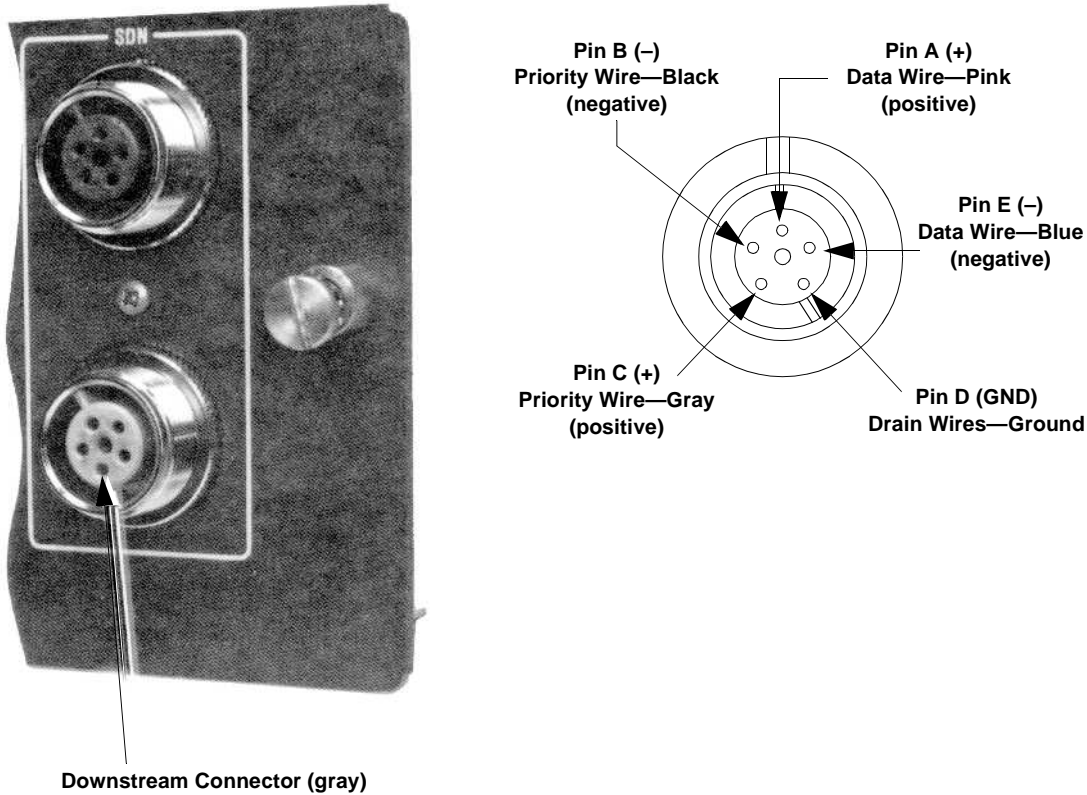

Figure 3-6. SDN Downstream Connector Gray
- c. Measure the resistance of the system distribution cable at the instrument end as follows. Refer to connector pin illustrations shown in Figure 3-6.
With the ACC running and the instruments connected to the branch, measure the priority wire voltage from the downstream connector on the last instrument—most downstream instrument—on the branch as indicated on the following connector pins. Refer to the connector pin illustrations shown in Figure 3-6.